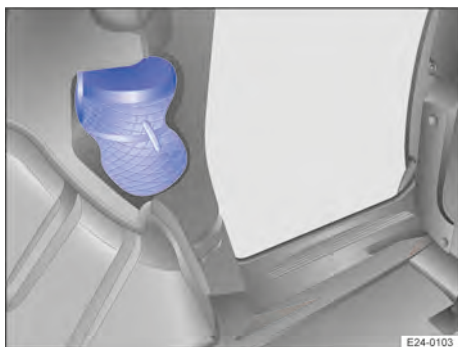

Fig. 139 In the side panel: load retention net
2. Open the toggle fastener and unfold the load retention net → Fig. 139.
→ Fig. 139.